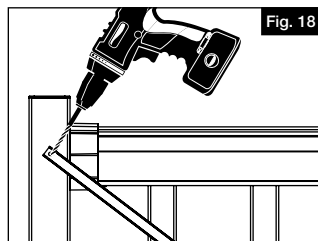

Fig. 18
- Attach brace to uprights. Pre-drill one end of brace with a  $\frac{1}{8}$ " drill bit through upright and aluminum inside of upright, then anchor the brace to the upright with #8 x  $\frac{3}{4}$ " screw. Repeat for other end of brace (Fig. 18).